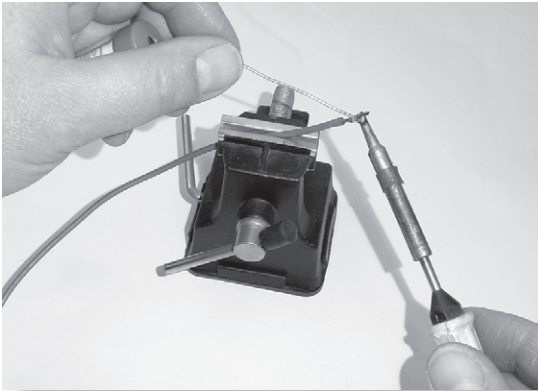

FIGURE 5.17 Tinning a connecting lead — do not heat the lead for too long, as insulation may melt or deteriorate.
- ▶ hold the flat part of the soldering iron bit tip upwards (as shown in Figure 5.17) and lay the stripped end of the connecting wire on the tip's flat surface